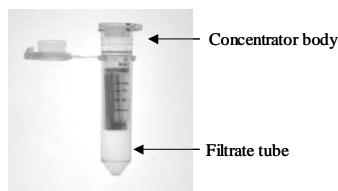

Figure 12. Diafiltration spin filter used for concentrating dilute antibody samples.
The AP-Antibody All-in-One™ Conjugation protocol requires that initial antibody protein concentration be at 4 mg/ml and 25 μ l. Many antibody vendors package their products at significantly more dilute concentrations (e.g. 0.25 to 1.5 mg/ml). In these instances, IgG samples require concentration to 4 mg/ml and 25 μ l before proceeding. The All-in-One kit provides two (2) diafiltration filters (M.W.C.O. 30 kD) for this purpose (**Figure 12**). Carefully follow the instructions below to avoid loss of antibody on the filter surface.